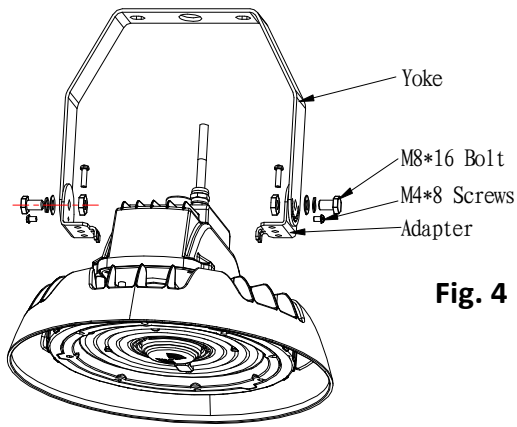

Fig. 4
1. Find the screws and washers as Fig. 4 shows from accessory bags.